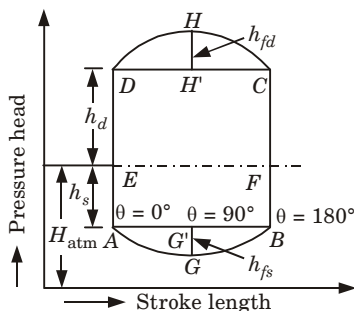

Fig. 5.32.1. Effect of friction on indicator diagram.
3. Fig. 5.32.1 shows the effect of friction on the indicator diagram.